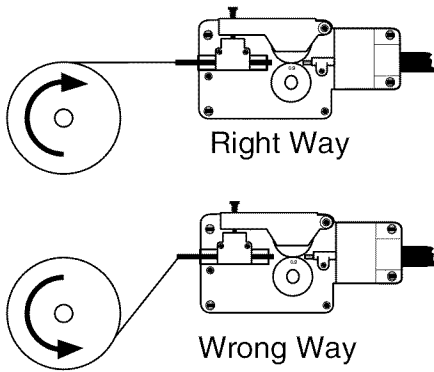

Figure 4. Right and Wrong Way To Feed Wire From Spool
4. Place the spool on the spindle in such a manner that when the wire comes off the spool, it will look like the top illustration in Figure 4. The welding wire should always come off the top of the spool into the drive mechanism.